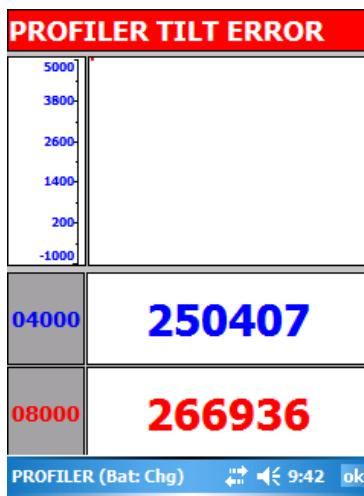

Figure 44: Profiler Tilt error.
- For example, if the user selects the Vertical Dipole Mode in the Orientation menu and then rotates the EMP-400 90°, the PDA will display a “Profiler Tilt Error” message (Figure 44).
- If the user selects the Horizontal Dipole Mode in the Orientation menu and then rotates the EMP-400 90°, the PDA will display a “Profiler Tilt Error” message (Figure 44).
- If the instrument is in the Vertical Dipole mode and is rotated 180° e.g., upside down, the system will display a “Profiler Tilt Error” (Figure 44).